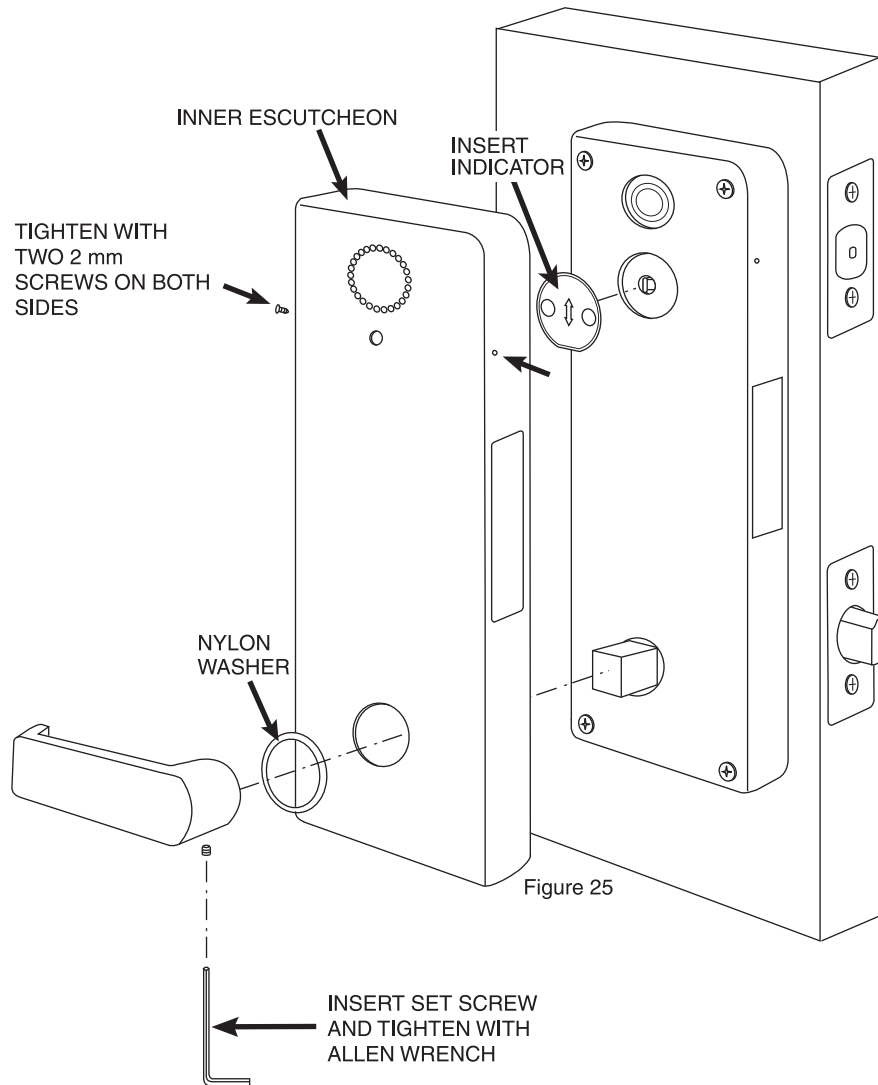

Figure 25
- c. Insert Nylon Washer and Lever Handle into square shaft. Insert Set Screw into Lever Handle and tighten with Allen Wrench (Figure 25).